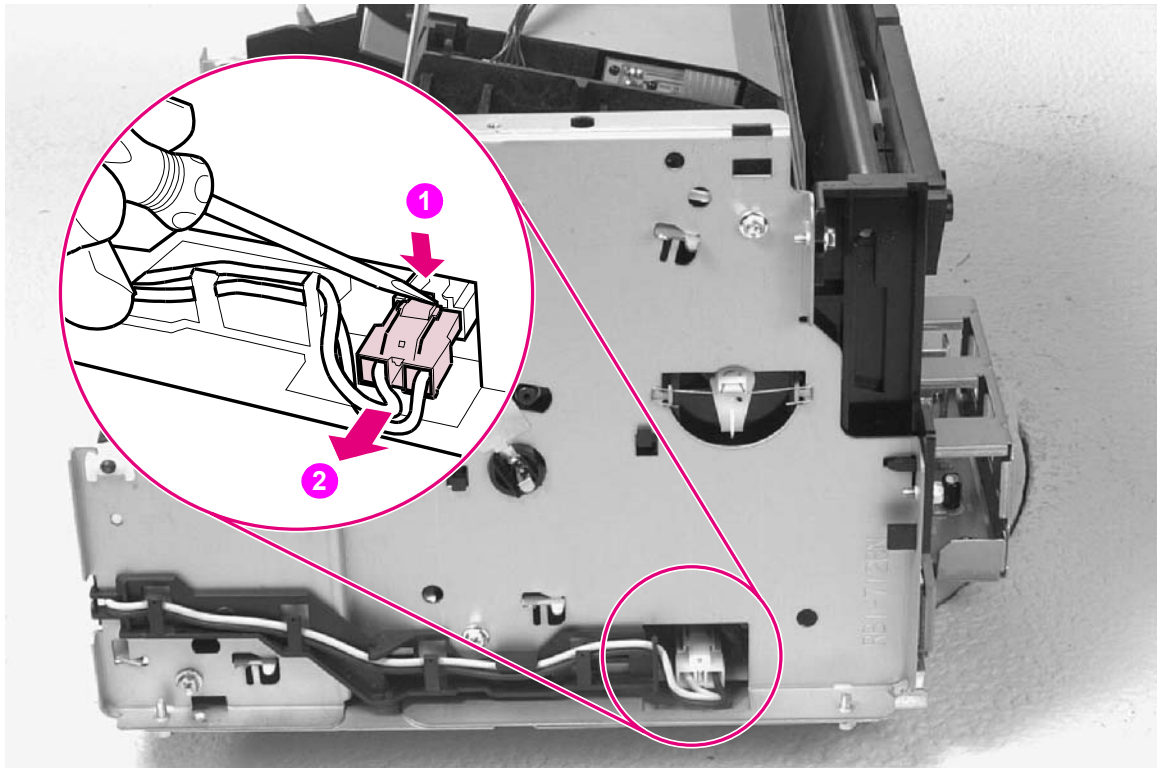

Figure 6-14 Heating Element removal (2 of 3)
- 3 Disconnect the AC voltage to the Heating Element by releasing the connector located on the DC Controller. Press down on the connector release with a small, flathead screwdriver (Figure 6-14, callout 1). (Because this is a small space, it is much easier to reach the connector with a screwdriver.) Pull straight out (Figure 6-14, callout 2).